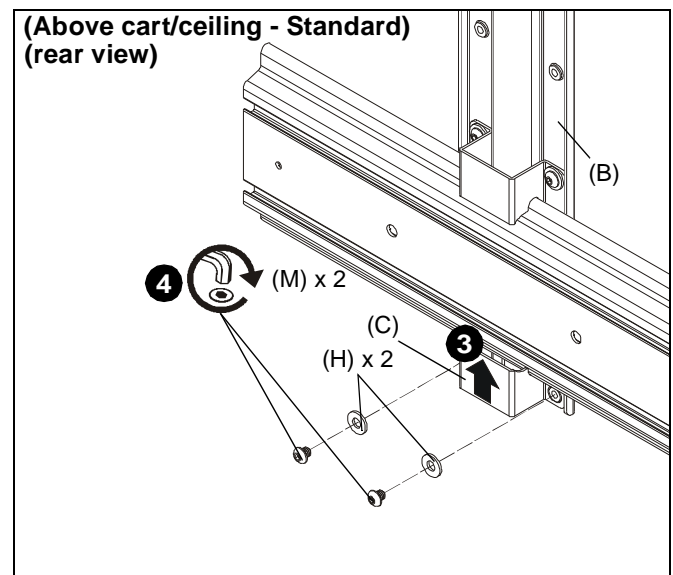

Figure 21
- Slide second shelf bracket (C) underneath head assembly, lining up holes on shelf bracket (C) to holes on main bracket (B). (See Figure 21)
- Use two 1/4-20 x 1/4" button head cap screws (M) and two large washers (H) to secure shelf bracket (C) to main bracket (B). (See Figure 21)